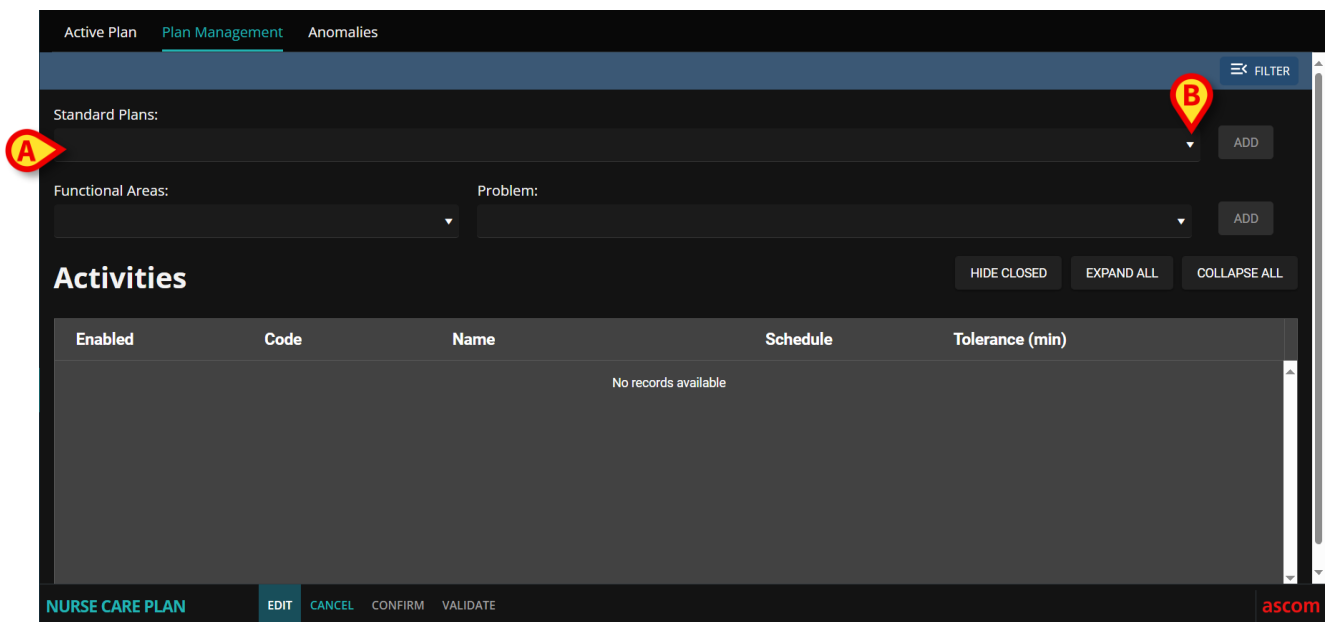

Fig 17
If no activity is present on the patient's plan, the screen changes in the following way (Fig 17).
The “Standard Plans” field is available (Fig 17 **A**).
- Click the ▼ button on the right (Fig 17 **B**) to display the available options in a drop-down menu (Fig 18).